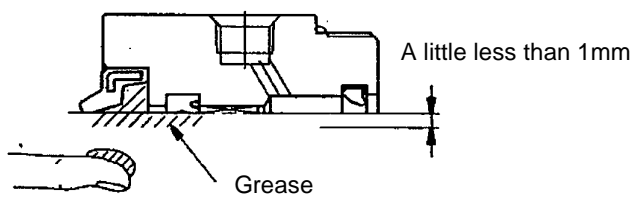

Fig. 8 Rod seal
1. Rod seal (Fig.8)
Apply grease to the scraper and the inner circumference of the rod seal as shown in Fig. 8.